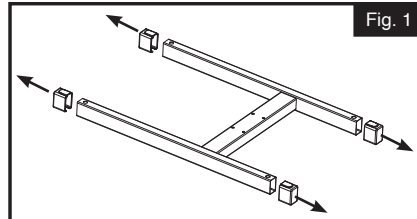

Fig. 1
1. Remove the covers from both sides of the base frame and set aside. (Fig. 1)